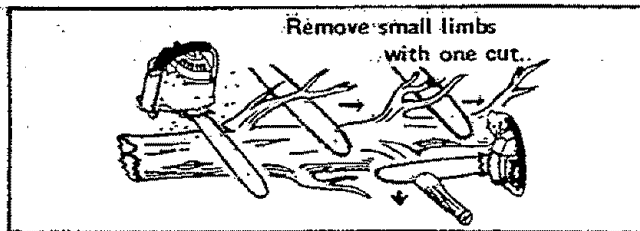

Figure 26
- c. Start at the base of the felled tree and work towards the top, cutting branches and limbs. Remove small limbs with one cut. Figure 26.